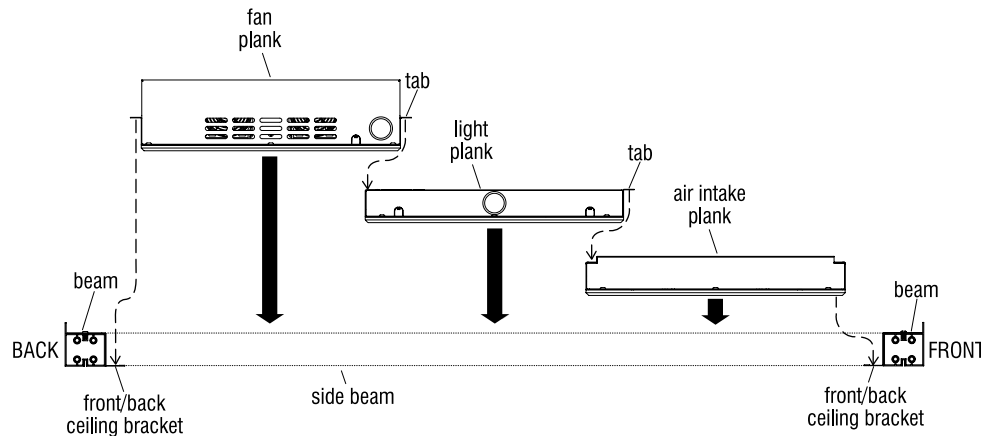

Figure 7
4. Start by installing the ceiling plank which will be in the front of the room (Figure 7). With two people, carefully lift the plank designated for the front as illustrated, up and over the room. Set the front plank in place such that the longer side "tab" rests on the top of the front beam as illustrated, and the end flanges rest on both ceiling side brackets. Repeat placing ceiling planks into position by positioning the next plank so the plank's long edge tab rests on the previous plank installed, and the end flanges rest on both ceiling side brackets. Repeat the above process for remaining ceiling planks (Figures 7 & 8).